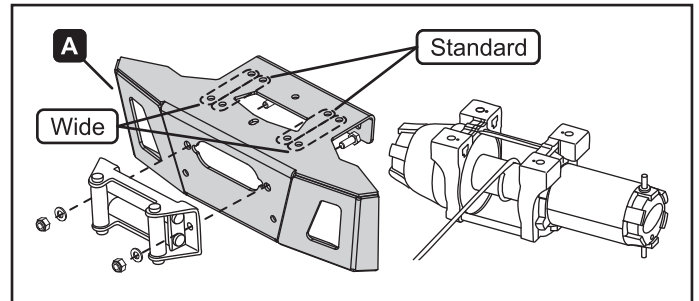

Figure 5.
4. Install your fairlead onto the winch mount (A) with the hardware provided with your winch. See figure 5.
6. Begin installation of your winch to the winch mount (A) with two bolts provided with your winch in the rear holes only. See figures 5 and 7.